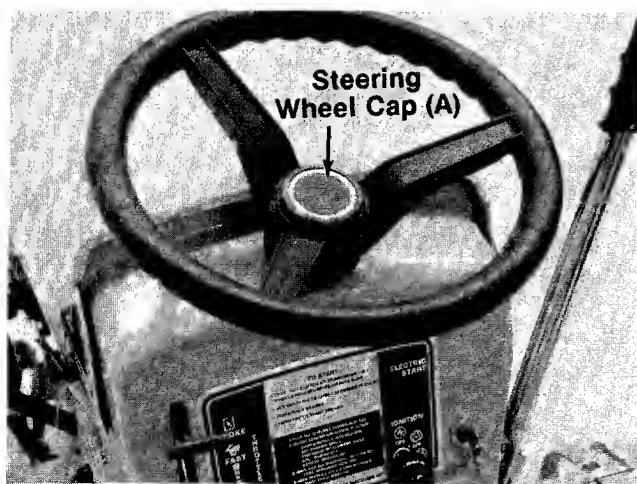

FIGURE 4.
- ← 4. Press the steering wheel cap (A) on the steering wheel by hand. See figure 4.